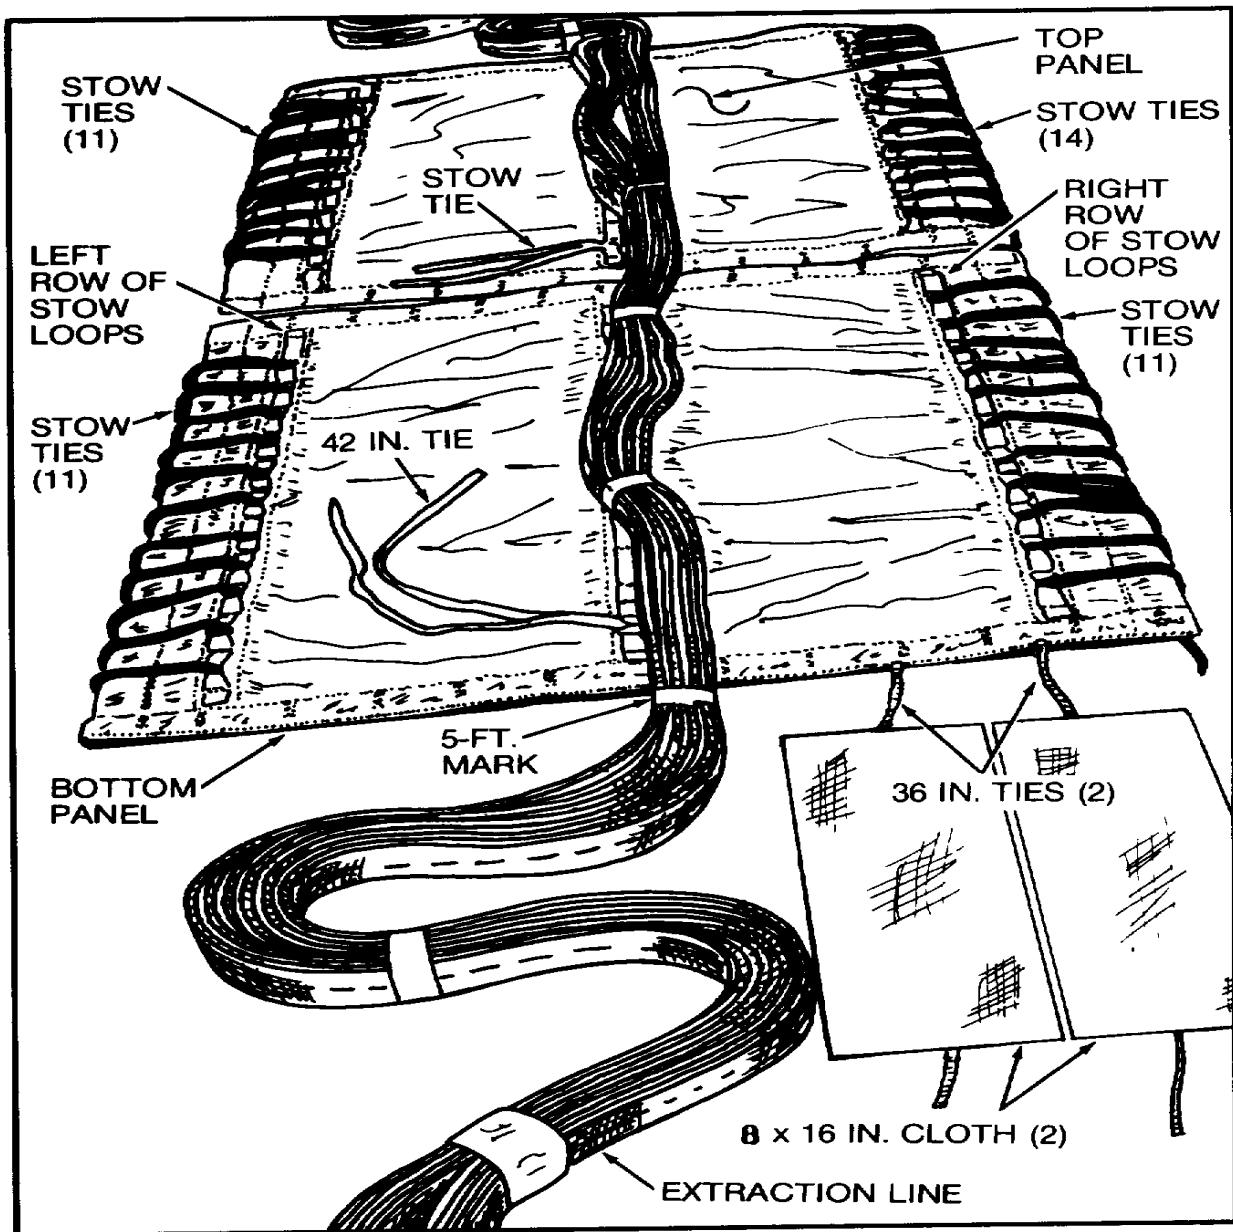

Figure 1. Panel Layout for Stowing 120 FT Six Loop Extraction Line.
- a. Position two Extraction Line Panels on pack table or suitable surface with stow loops facing up and lengthwise (figure 1).